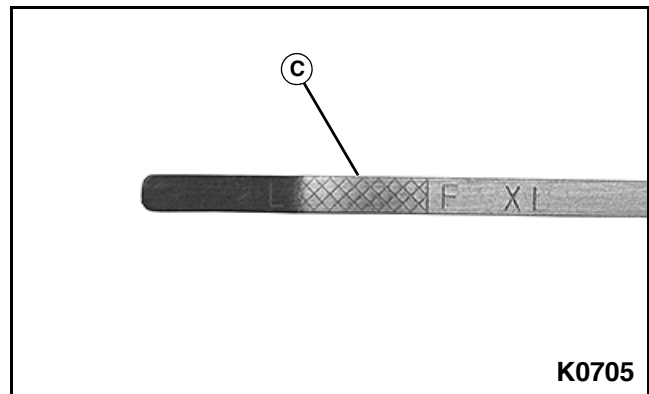

Figure 5-8
10. Check engine oil level, making sure that the level lies between the L and F marks on the dipstick (C). **See Figure 5-8.**